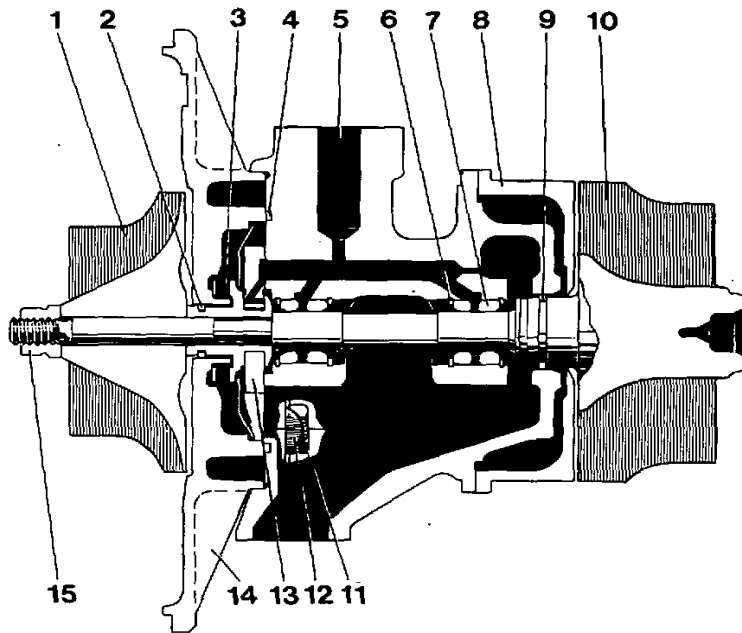

Fig. 214. Rotor unit, AiResearch
5. Pull the turbine rotor shaft out of the bearing housing. Remove the protective cover (8, fig. 214).
6. Remove the bolts and lock tabs which hold the end cover (14) to the bearing housing. Tap off the end cover with a soft hammer.
7. Remove the thrust sleeve (3) and the thrust bearing (13) from the bearing housing.
2. Turn the bearing housing so that the turbine rotor side (the end without bolt holes) faces upwards. Place the protective cover (8, fig. 214) on the bearing housing.
4. Fit the piston type ring to the thrust sleeve (3). Place the thrust bearing (13) over the thrust sleeve.
6. Place the rubber ring (4) in the bearing housing groove.
7. Check that the thrust spring is fitted in the end cover (14). Place the end cover onto the shaft and thrust sleeve. Turn the end cover so as to bring the bolt holes in the end cover and the bearing housing into alignment.